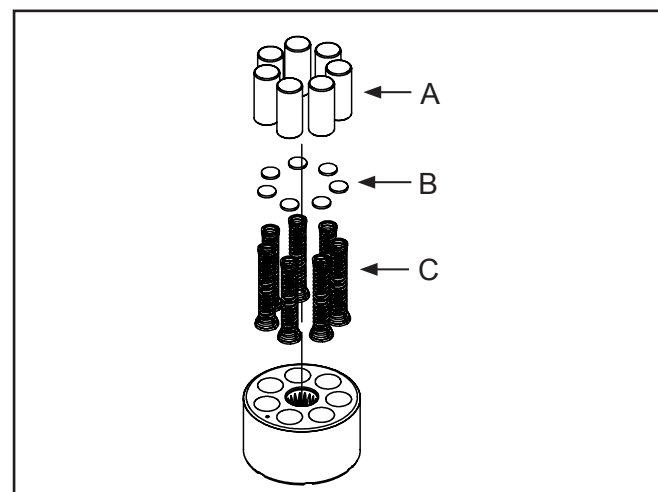

Figure 18
9. **(See Figure 18)** Check each piston for proper operation by pressing the pistons in and releasing them in the block bore. Disassemble the pump cylinder block. Check for piston/block wear in the cylinder bore. Inspect the pistons (A), piston springs (C) and thrust washers (B) for excessive wear or damage. NOTE: Thrust washers may be held in place in the piston by residual oil.